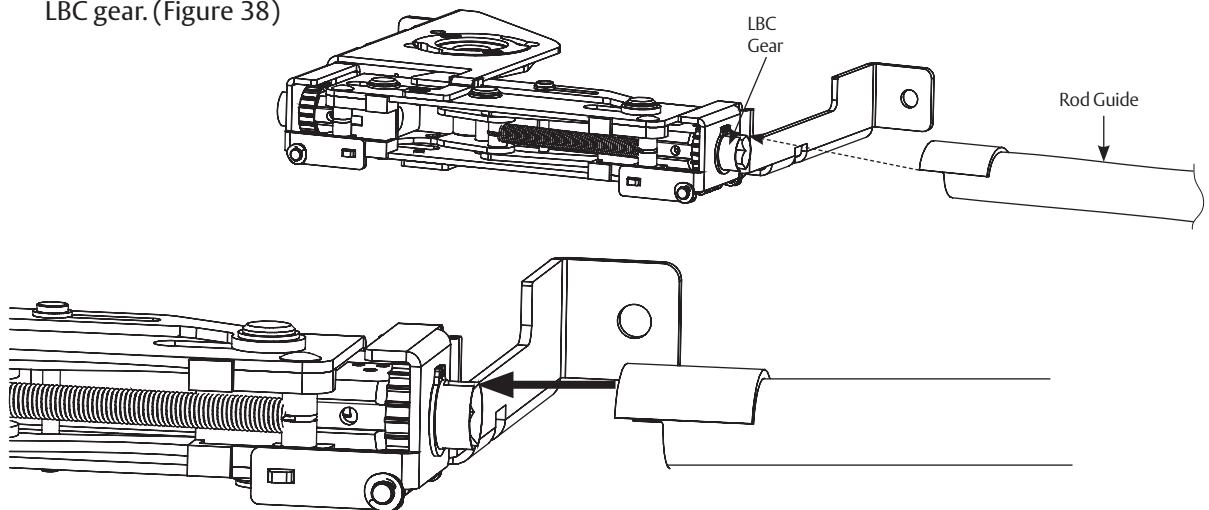

Figure 38
- When approaching the LBC, slightly elevate the rod and slide the guide tab on outer diameter of the LBC gear. (Figure 38)